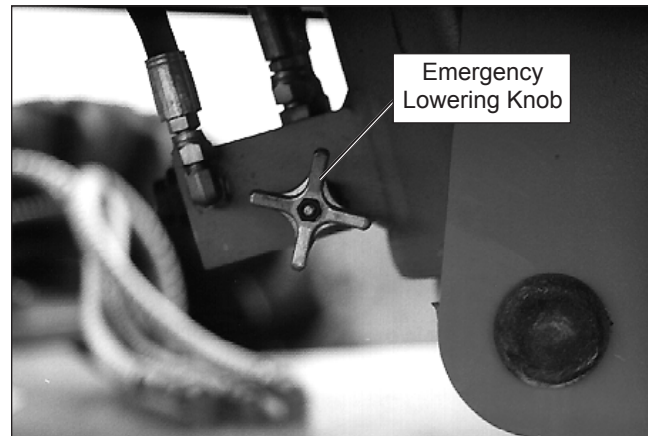

Figure 10.5 – Emergency Lowering Knob
1. Slowly turn the emergency lowering knob to open the bleed down valve on the main boom lift cylinder (refer to Figure 10.5). Control the rate of descent by turning the knob.